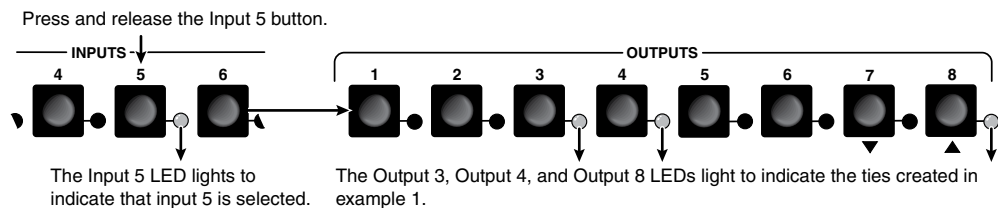

Figure 3-9 — Select an input
2. Press and release the Input 5 button (figure 3-9).